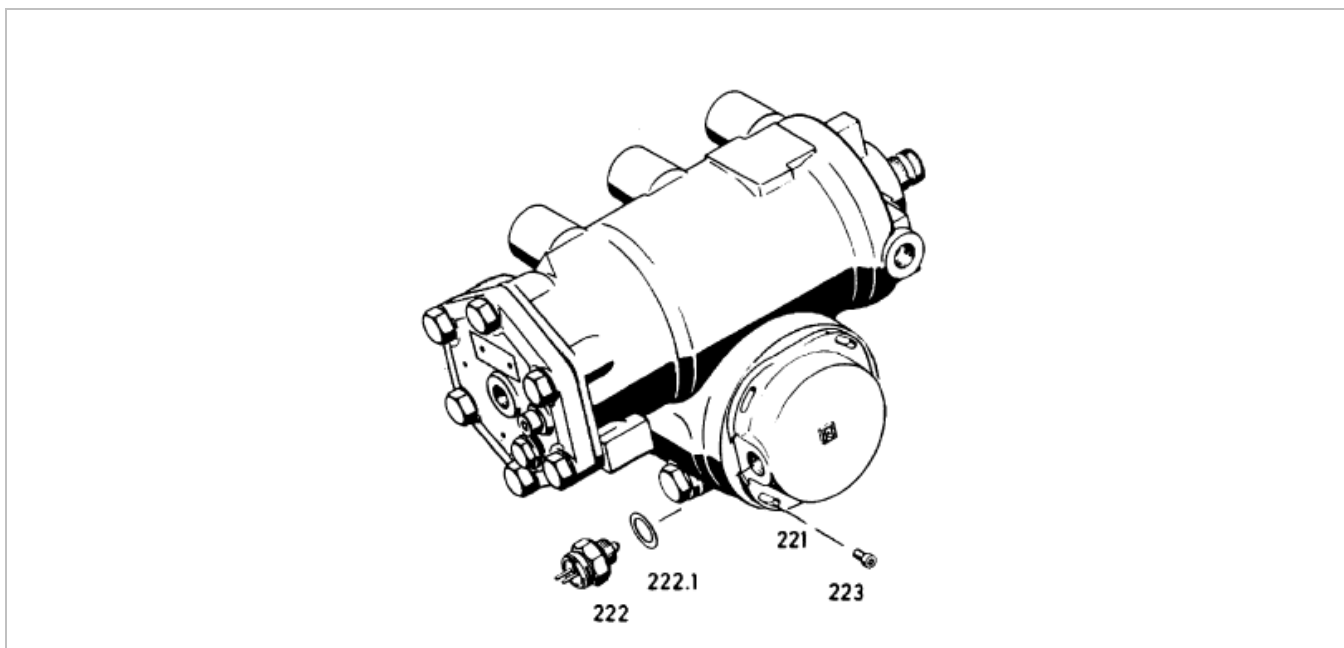

Fig. 17: Replacing the switch
1. Unscrew the switch (222) and replace it by a new one (tightening torque: 50 Nm).
2. Starting from mid-position, rotate the steering gear to the left and to the right. The contact of the switch (222) must open after drop arm travels of  $5^{\circ}$  ( $\pm 10\%$ ), each ( $110^{\circ} \pm 10\%$  drop arm travel corresponding to 0.3 steering wheel turns) (Fig. 17).
4. If required, correct the symmetry of the switching range by rotating the cover (221).